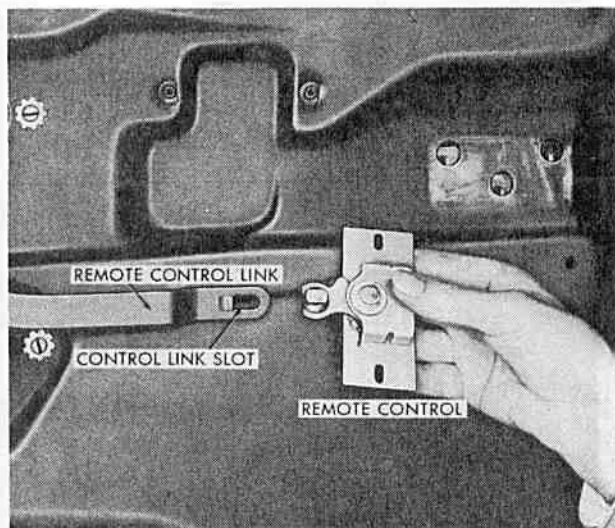

FIG. 13
**REMOTE CONTROL** Remove the two screws and star washers which hold the remote control to the door. To remove the control, turn it 90° clockwise and pull it out of the control link slot (see Fig. 13).